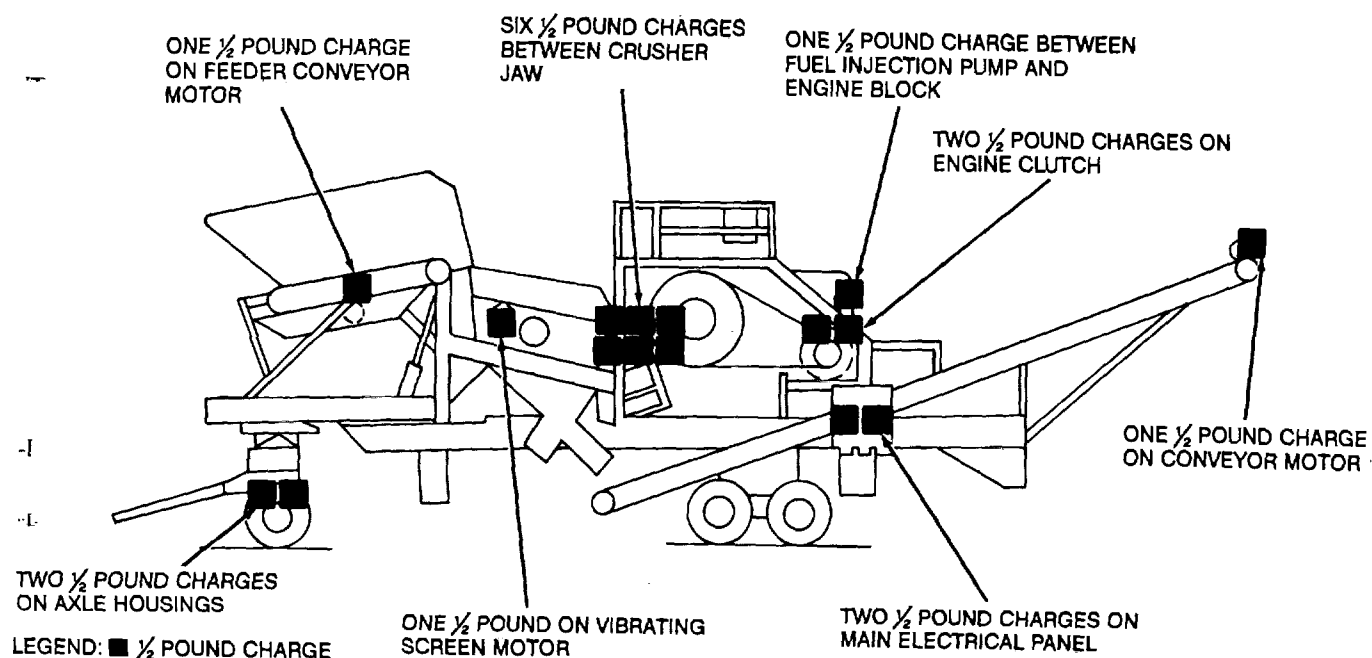

Figure 62. Placement of demolition charges.
*a. Explosives.* Place as many of the charges shown on figure 62 as the situation permits and detonate them simultaneously with a detonating cord and a suitable detonator.